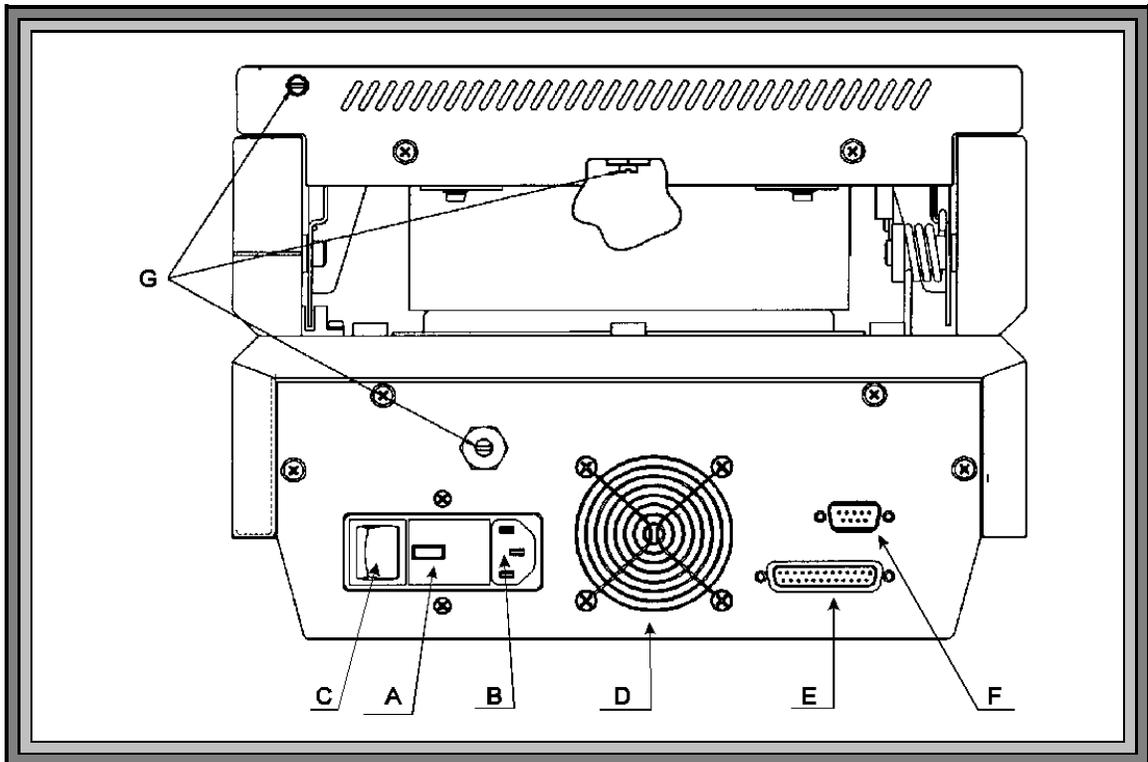

Figure 7 MAX-1000 REAR VIEW
The MAX-1000 is a high performance loss-on-drying moisture analyzer. It consists of a small convection air oven, a weighing mechanism with a resolution of 1 milligram and a full scale range of 40 grams, and a backlit, graphic liquid crystal display. A microprocessor controls the test process, does all necessary calculations, and oversees data handling and communications. A small fan maintains the electronics at a stable, low temperature. Provisions for connection of a printer and serial communications devices are provided at the back. The power input module can be set for either 100-120 volts or 220-240 volts (**Figure 7**, page 13).
4.2.1 The MAX-1000 can be used with either 120 or 240 VAC. Check the setting on the fuse holder ("A" on **Figure 7**) for correct voltage (100-120 or 220-240 volts) from your power receptacle.
! Slide the card in the center of the fuse holder out, turn it around, and slide it back in so that the correct voltage shows through the window ("A" on **Figure 7**).
4.2.3 Remove the power cord from the packing material and insert the rectangular end into the power receptacle ("B" on **Figure 7**) at the rear of the instrument. Be sure that the power switch ("C" on **Figure 7**) located above the power receptacle is in the off (O) position.
- 4.3.1 If you have a printer, connect it to the larger of the two "D" connectors ("E" on **Figure 7**) at the rear of the instrument. Use any standard Centronics parallel PC printer and printer cable. (Test information will print at the end of each test, or at preset intervals. For more details, see **PRINTER SETUP** on page 38 and **REPORT CONTROL OPTIONS**, page 40.)
- 4.3.2 If you would like data output to a computer, attach a null modem cable to the 9-pin, RS-232 connector ("F" on **Figure 7**). See the section on **DATA OUTPUT TO A COMPUTER**, page 20 for more information.
- 4.4.1 Make sure instrument is OFF. Plug the power cord into a power outlet. Press the MAX-1000 power switch ("C" on **Figure 7**) at the end marked (I). Observe that the fan ("D" on **Figure 7**) next to the power receptacle begins to rotate. If it does not, check to be sure that power is present at the outlet being used.
- 4.5.1 Some applications (such as black liquor solids analysis) require the use of a nitrogen purge to remove volatiles from the chamber. If a nitrogen purge is to be used, and your instrument is factory equipped with the "nitrogen purge" option, attach the diffuser to the inside of the heater box and the hose barbs and tubing to the round ports on the rear of the lid and instrument body ("G" on **Figure 7** on page 13).
- 4.6.7 From the back of the unit, remove the plug from the lower portion of the unit, (see **Figure 7**).